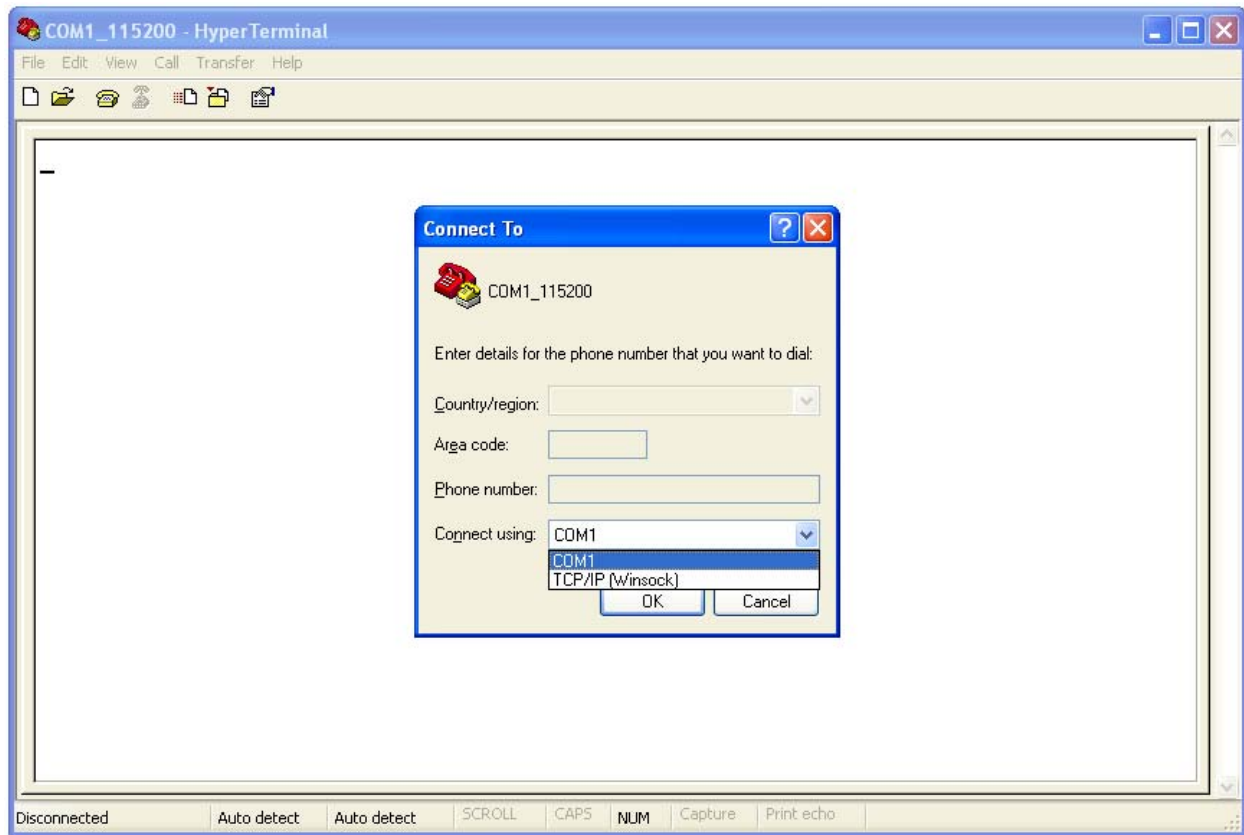

Figure A-11. Connect using COM1
3. The window shown in the Figure A-11 appears. Select the COM port identical to the one that shows up on the device manager.